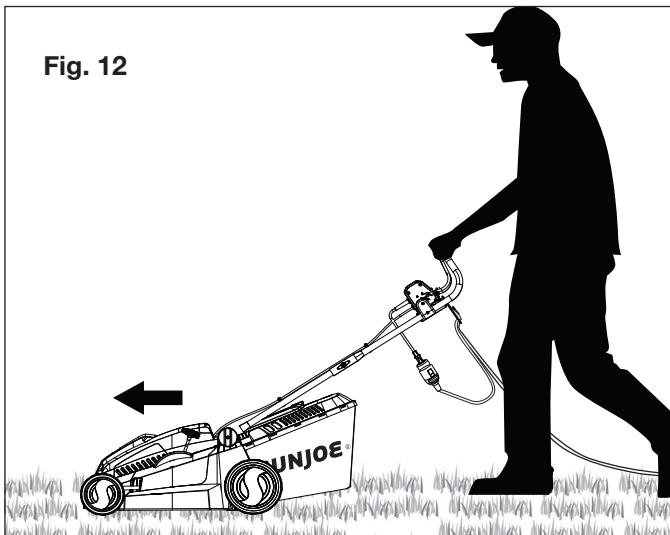

Fig. 12
- Let the motor get up to speed, gently lowering the lawn mower down into the cutting position and start mowing (Fig. 12).